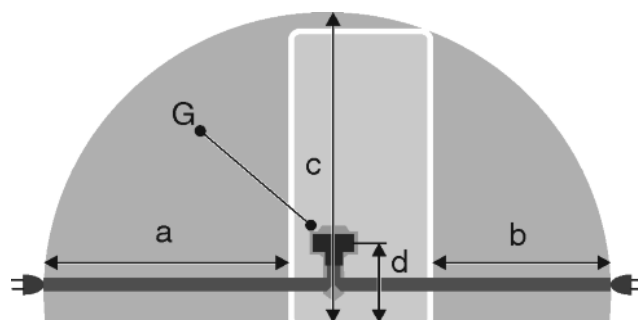

Fig. 26
- The socket is outside the back of the appliance area in the specified area *Fig. 26 (a, b, c)*.
- Insert the appliance plug *Fig. 26 (G)* into the back of the appliance. Ensure that it clicks into place.